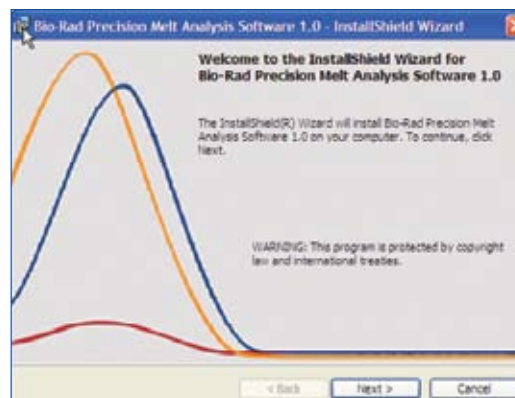

Fig. 1. Welcome screen.
2. Click **Next** on the software launch page (Figure 1).